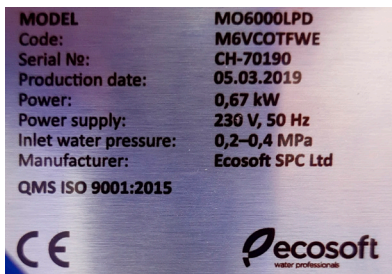

Figure 31. RO machine nameplate
3. the RO machine's serial number (can be found on the machine's nameplate, see fig. 31);